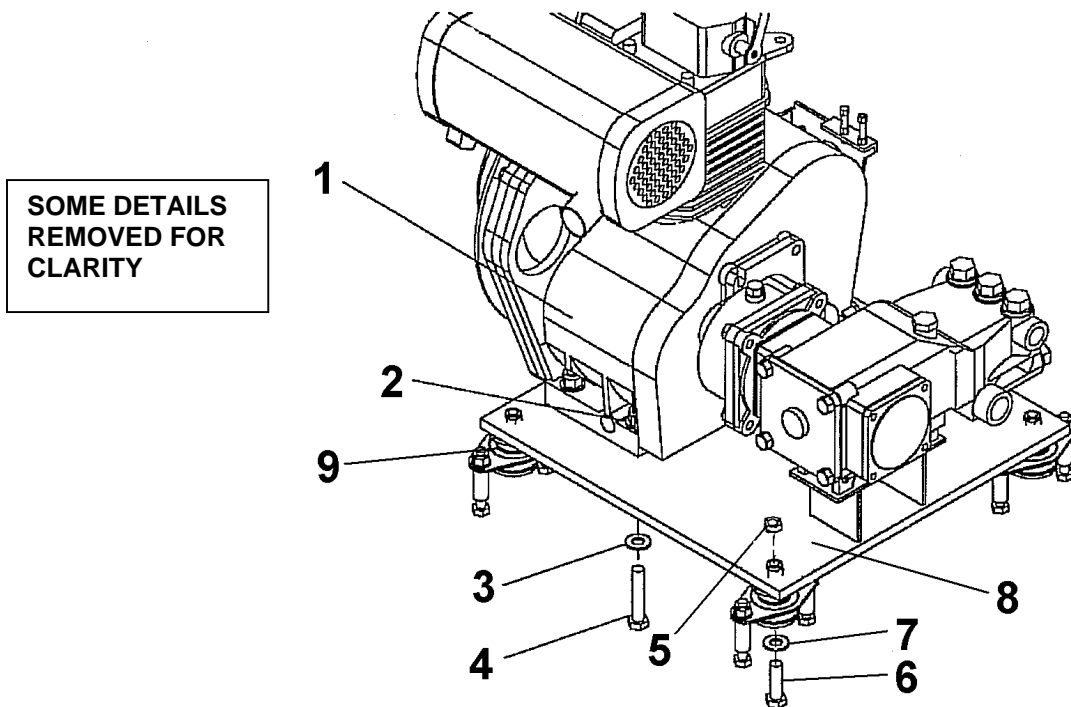

Figure 5. Diesel Engine Assembly.
7. Remove four nuts (5) and secure the center bolt (6) and rebound washer (7). See Figure 5.
8. Lift and remove diesel engine with plunger pump/gearbox assembly and base plate from frame assembly. See Figure 5.
10. Remove four nuts (2), washers (3), and bolts (4) securing diesel engine (1) to base plate (8).
11. Remove diesel engine (1) from base plate (8).
1. Place the diesel engine assembly (1) onto base plate (8). Secure engine to base plate with four nuts (2), washers (3), and bolts (4). See Figure 5.
2. Install diesel engine assembly (1) and mounting plate (8) onto vibration isolators (9). See Figure 5
3. Secure the base plate (8) to the vibration isolators (9) with bolts (6), washers (7) and four nuts (5). See Figure 5.